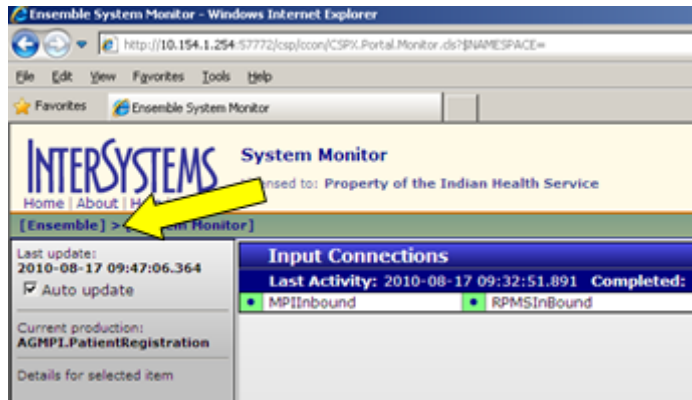

Figure 3-5: **System Monitor** page
**Note:** Some pages in the Ensemble Management Portal do not have a menu located on the left side. On these pages, navigate to the Ensemble Management Portal home page by clicking the **Ensemble** navigation link, as shown in Figure 3-5.
**Note:** Some pages in the Ensemble Management Portal do not have a menu located on the left side. On these pages, return to the Ensemble Management Portal home page by clicking the **Ensemble** navigation link located at the top of the display area, as shown in Figure 3-5, and use the menu on the home page.